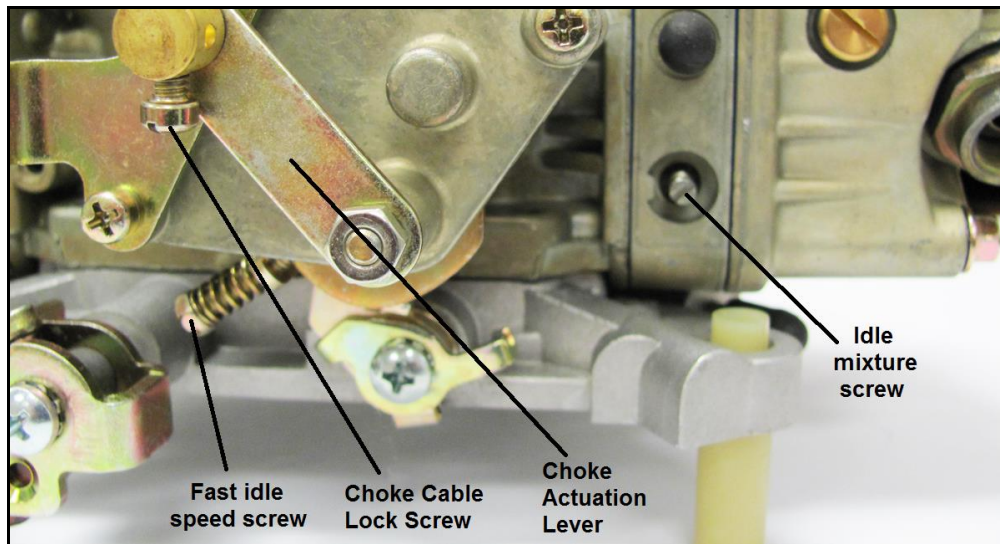

Figure 8
6. If the fast idle RPM is too low or too high for your preferences, **TURN THE ENGINE OFF**. Advance the throttle to wide-open, exposing the fast idle set screw below the choke housing (See **Figure 8**).
1. Connect the choke control cable (Holley® P/N 45-228) to the choke actuation lever, and lock in place with the choke cable lock screw (Figure 8).
4. If the fast idle RPM is too low or too high for your preferences, **TURN THE ENGINE OFF**. Advance the throttle to wide-open, exposing the fast idle set screw below the choke housing (See **Figure 8**).